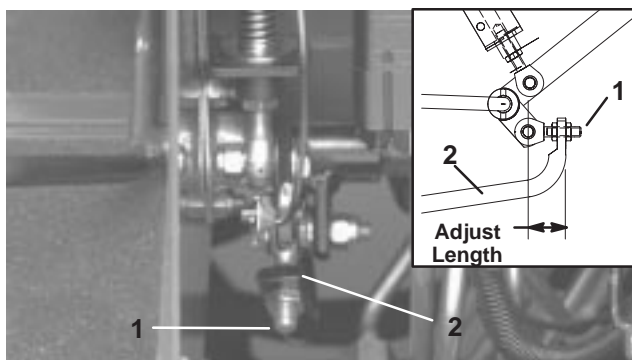

Figure 62
4. Adjust jam nuts on pump rod end to move pump control tube forward to eliminate forward creep or rearward to eliminate rearward creep (Fig. 62).